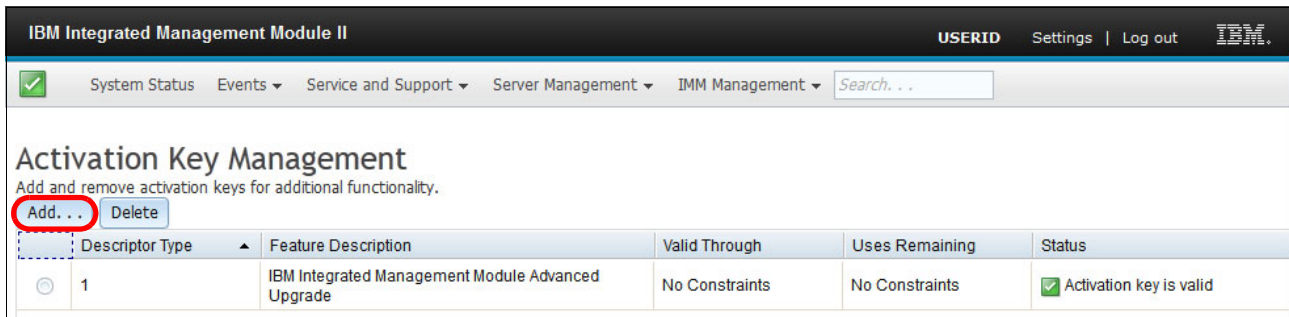

Figure 3-3 Add activation key
- The Activation Key Management panel, as shown in Figure 3-3, lists any activation keys that are installed. In our example, the IMM2 Advanced Upgrade (which enables remote control) is installed. Click **Add** to install a new key.